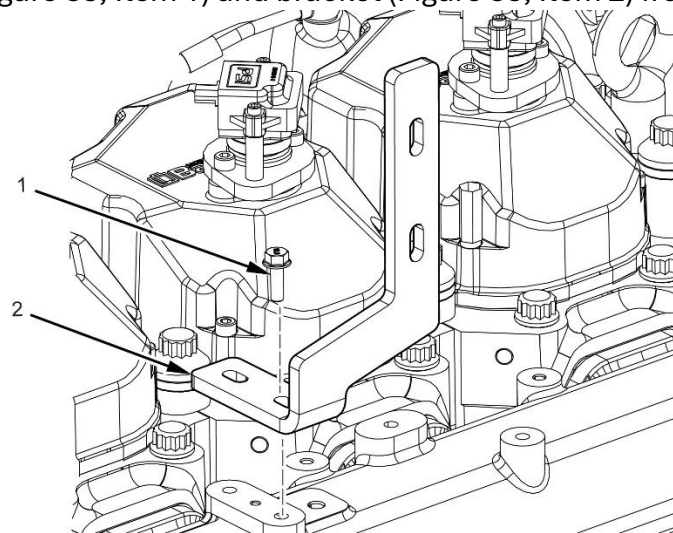
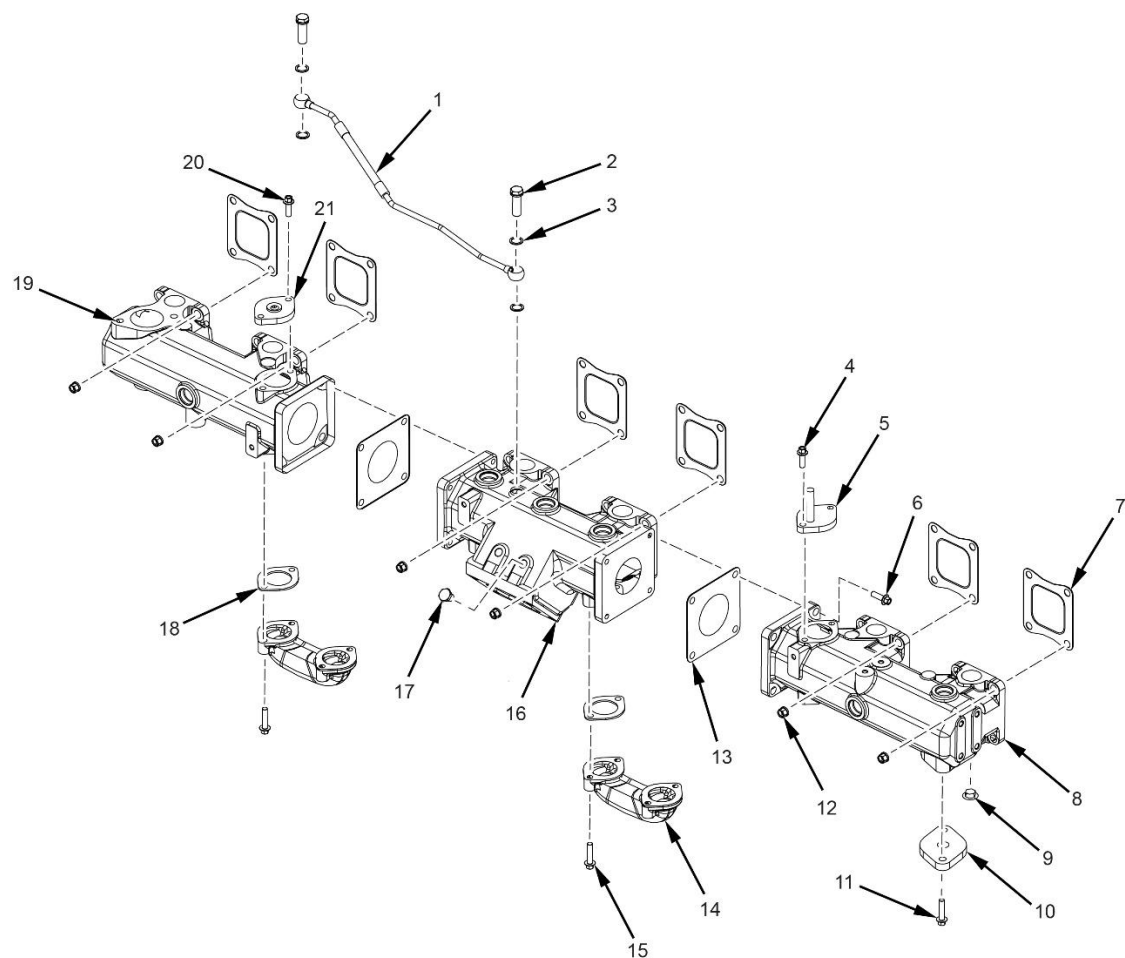
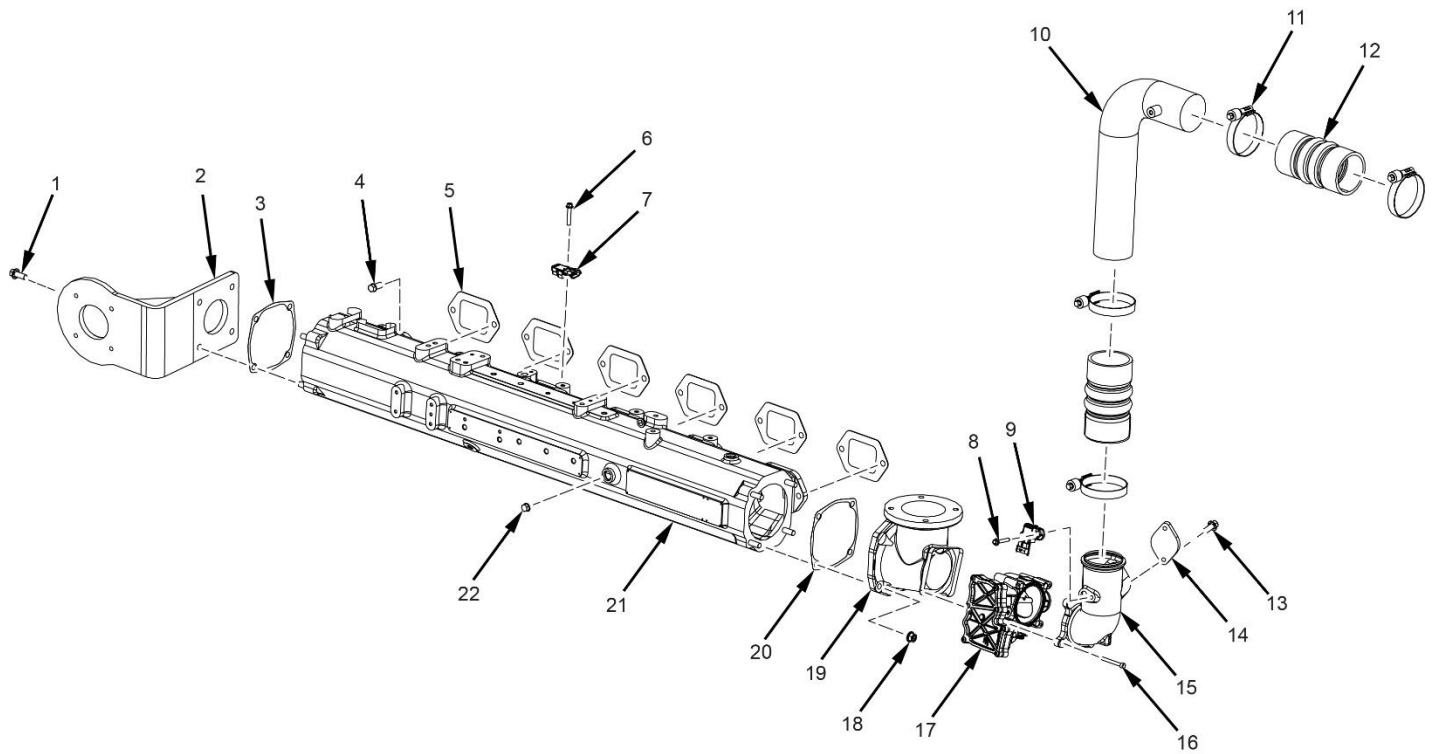

Figure 34. Lock Off Valve Bracket Assembly
Figure 35. Exhaust Manifold Assembly
Figure 36. Intake Manifold Assembly
7. Remove two bolts (Figure 34, Item 1) from the lock off valve bracket (Figure 3, Item 2) and remove bracket.
1. Install lock off valve bracket (Figure 34, Item 2) and two bolts (Figure 34, Item 1) to the intake manifold.
2. Remove bolt (Figure 35, Item 2), washers (Figure 35, Item 3) and pipe (Figure 35, Item 1) from exhaust manifold assembly.
3. Remove 34 nuts (Figure 35, Item 12) securing the from exhaust manifold assembly.
4. Remove the exhaust manifold assembly from engine and remove six exhaust gaskets (Figure 35, Item 7). Discard gaskets.
5. Remove the bolts (Figure 35, Item 15), gaskets (Figure 34, Item 18) and water pipes (Figure 35, Item 15) from the exhaust manifolds.
6. Remove bolts (Figure 35, Item 4) and flange (Figure 35, Item 5).
7. Remove bolts (Figure 35, Item 11) and flange (Figure 35, Item 10).
8. Remove bolts (Figure 35, Item 20) and flange (Figure 35, Item 21).
9. Remove taper plug (Figure 35, Item 9) if required.
10. Remove plugs (Figure 35, Item 17) if required.
11. Remove bolts (Figure 35, Item 6) and Exhaust Manifold Assemblies (Figure 35, Item 8 and 19) and gaskets (Figure 35, Item 13) from Exhaust Manifold Assembly (Figure 35, Item 16). Discard gaskets.
2. Install new gaskets (Figure 35, Item 13) between the three sections of the exhaust manifolds (Figure 35, Item 18, 16 & 8).
4. Apply molybdenum disulfide onto the threads of all bolts (Figure 35, Item 6).
5. Install bolts (Figure 35, Item 6) and tighten.
6. Torque all bolts (Figure 35, Item 7).
7. Install taper plug (Figure 35, Item 9) if removed.
8. Install plugs (Figure 35, Item 17) if removed.
9. Install bolts (Figure 35, Item 4) and flange (Figure 35, Item 5).
10. Install bolts (Figure 35, Item 11) and flange (Figure 35, Item 10).
11. Install water pipes (Figure 35, Item 15) and gaskets (Figure 35, Item 18) to the exhaust manifolds and secure with bolts (Figure 35, Item 15).
13. Install new gaskets (Figure 35, Item 7) onto the cylinder heads and between the exhaust manifold assembly.
14. Install and torque the 24 nuts (Figure 35, Item 12).
15. Install bolt (Figure 35, Item 2), washers (Figure 35, Item 3) and pipe (Figure 35, Item 1) to the exhaust manifold assembly.
1. Loosen clamps (Figure 36, Item 11) and remove Pipe Coupler (Figure 36, Item 12) from Charge Air Cooler Outlet Pipe (Figure 36, Item 10).
2. Remove the two bolts (Figure 36, Item 13) from flange (Figure 36, Item 14).
3. Remove bolt (Figure 36, Item 8) and Throttle Inlet Pressure and Temperature Sensor (Figure 36, Item 9) from Throttle Inlet Pipe (Figure 36, Item 15).
4. Remove four bolts (Figure 36, Item 16), electronic throttle (Figure 36, Item 17) and Mixer Intake Pipe (Figure 36, Item 19) from Mixer Intake Pipe (Figure 36, Item 19).
5. Remove four nuts (Figure 36, Item 18) from Manifold Inlet Pipe (Figure 36, Item 19) and gasket (Figure 36, Item 20) from Intake Manifold (Figure 36, Item 21).
6. Remove Hexagon Taper Screw Plug (Figure 36, Item 22) from Intake Manifold (Figure 36, Item 21).